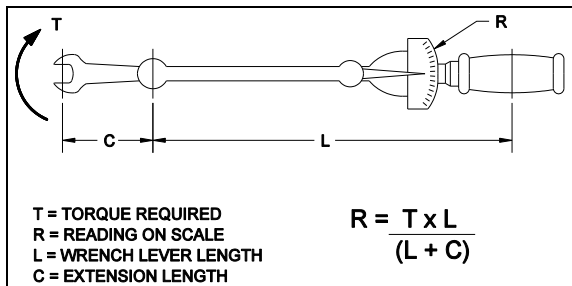

FIGURE 21 : TORQUE WRENCH FORMULA
Caution: Make sure all keyless bushings are tightened to 125 lb-ft before unlocking the pins or moving the slide-out. A lower torque value may cause the bushing to slip on the shaft, and a higher torque value may break the bushing. The torque may need to be recalculated depending of the wrench size. Refer to figure 21 for wrench size compensation.
3. On the upper shaft, tighten the left-hand side keyless bushing to 125 lb-ft (refer to figure 21 for wrench size compensation). Make sure the pinion is centered and fits well in its rack to eliminate any possible backlash. Take note that when the keyless bushing nut is tightened, the pinion moves about 1/16" to 3/32" toward the slide-out center.
4. On the lower shaft, tighten the left-hand side keyless bushing to 125 lb-ft (refer to figure 21 for wrench size compensation).
4. On the lower shaft, tighten the right-hand side keyless bushing to 125 lb-ft (refer to figure 21 for wrench size compensation).